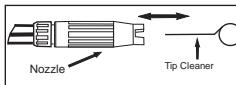

Figure 5 - Insert tip cleaner in nozzle hole and move back and forth until debris is dislodged
- Using included tip cleaner, or an unfolded paper clip, insert wire into the nozzle hole and move back and forth until debris is dislodged. (See Figure 5)